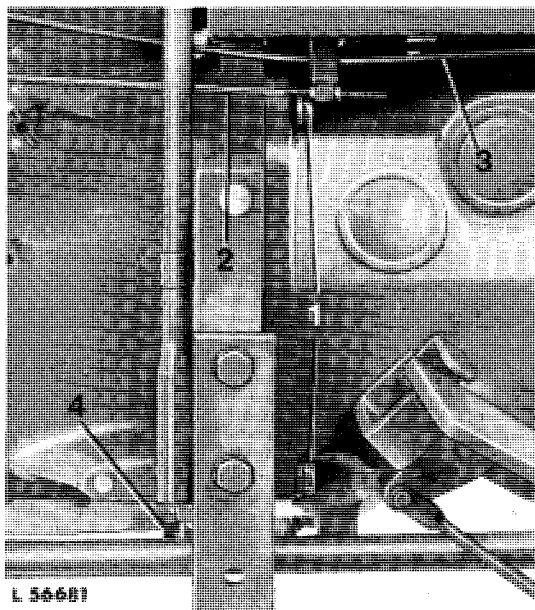

Fig. 5 — Separating between Engine and Clutch Housing, L.H. Side
*On 1630 tractors only;* Remove both cap screws 4 (fig. 5) securing oil pan to clutch housing.